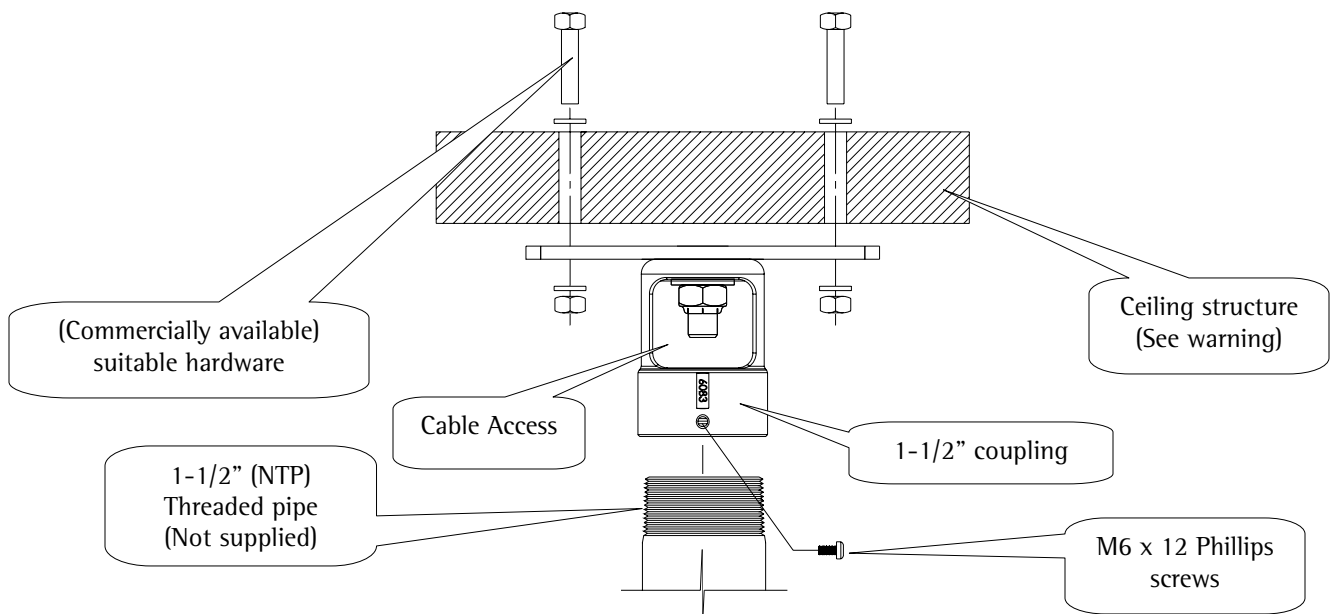

Figure 2
**WARNING:** The ceiling should be capable of supporting a weight of at least five (5) times the weight intended to hang from the PP-5A, if it cannot, the ceiling must be reinforced. Proper installation procedure by qualified personnel as outlined in the installation instructions must be adhered to. Failure to do so could result in serious personal injury.
3. See Figure 2 for cable access and 360° rotation.